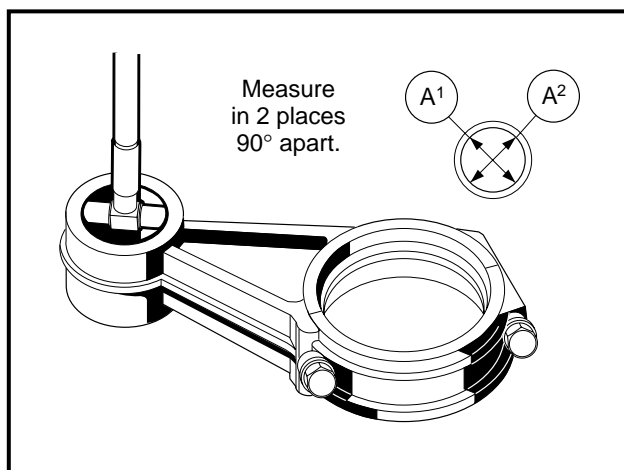

Figure 13-57 Measure I.D. of Small Bore
2. Using an inside micrometer or a telescoping gauge, measure the inside diameter of the connecting rod small bore at several points along its length (**Figure 13-57, Page 13-29**).